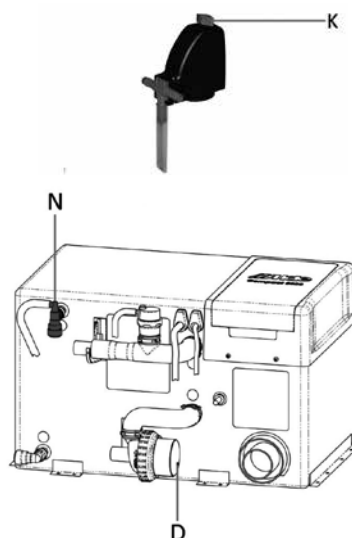

Figure 1
3. Open the safety/drain valve by lifting the yellow tab (Fig 1 [M]), or by turning the blue knob (Fig 1 [K]) 90°.
NB: Check that the red breather valve (Fig 1[N]) is allowing air to enter the hot water cylinder, when it is being drained, and that the clear plastic hose is not obstructed.
Set the 12 V inline circulation pump on the side of the boiler to speed 5 (Fig 1 [D]), by turning the blue speed dial clockwise, on the face of the pump motor. NB: Speed is not adjustable if using the 12 V circulation pump fitted in the expansion tank.